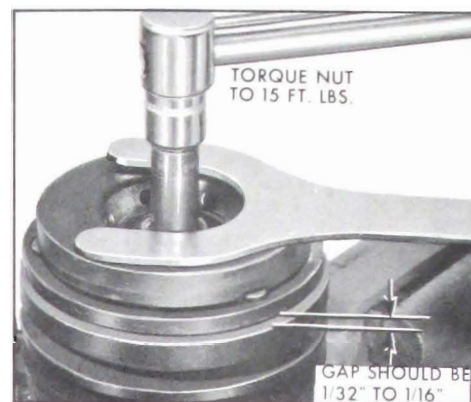

Figure 11-103—Torquing Shaft Nut
6. Install a new shaft nut, using J-9399, special thin wall $9/16''$ socket. Tighten to 15 lb. ft. torque. The air gap between the friction faces of the pulley and clutch drive plate should now be between $1/32''$ and $1/16''$ clearance. See Figure 11-103.